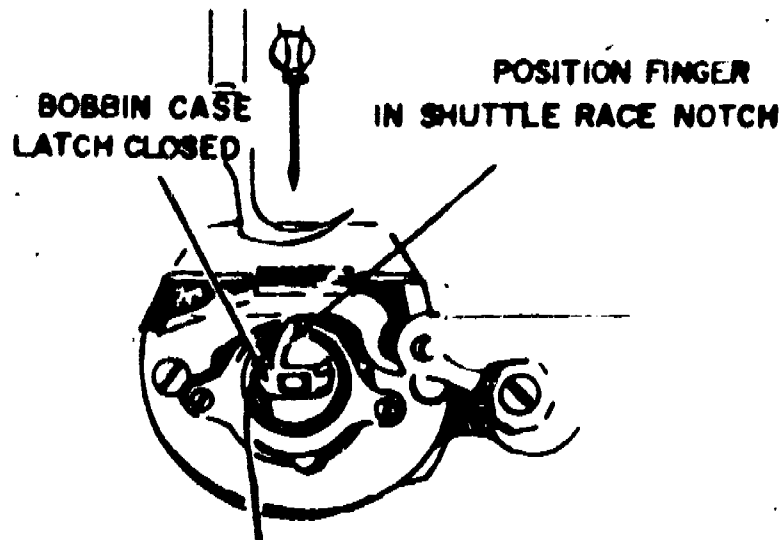

Figure 20. Bobbin Case in Shuttle Race with Bobbin Thread Ready to be Picked up by Needle Thread.
2. Thread the Head. (See figure 20).